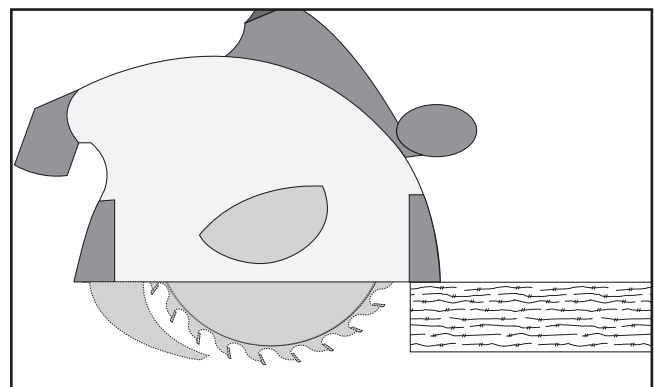

Figure 16. Example of positioning saw on workpiece for straight cut.
2. Position front of saw on workpiece, leaving enough room for blade to fully extend from bottom without coming into contact with workpiece, as shown in **Figure 16**.